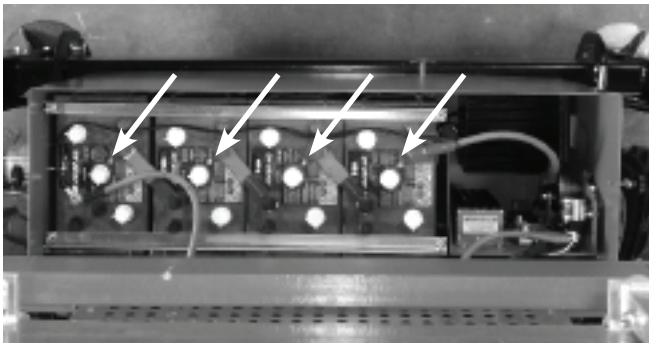

Figure 11.5 - DC Motor Batteries
There are two (2) master battery isolater switches mounted at the end of the control cabinet (see figure 11.5).
Unscrew the knurled knobs at each end of the cabinet to remove the lid to gain access to the batteries (see figure 11.5).